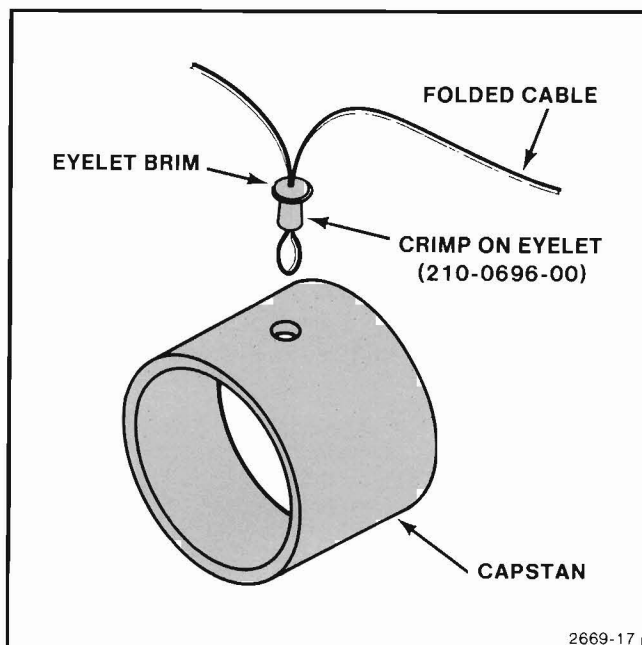

Figure 3-3. Cable Drive Capstan.
2. Take a length of cable (16 feet for an X-axis cable or 17 feet for the Y-axis cable), fold it in half, and crimp the fold with pliers. Place an eyelet (210-0696-00), brim first, over the folded cable and crimp the eyelet's body on the cable about 1/4 inch from the end of the loop (see Figure 3-3).